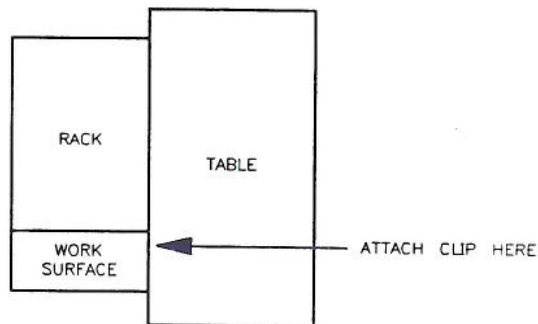

Figure 3-2. Side-By-Side-Position Table Attachment
- a. If you wish to attach the table in the side-by-side position (see Figure 3-2), go to step 3.